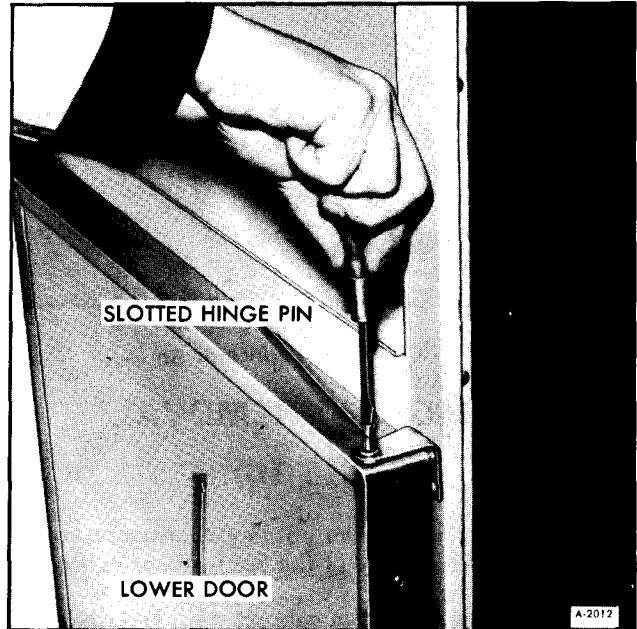

Figure 9—Removing Center Hinge Pin
3. Top of hinge pin is slotted to accept a screw driver. Remove this hinge pin (figure 9).